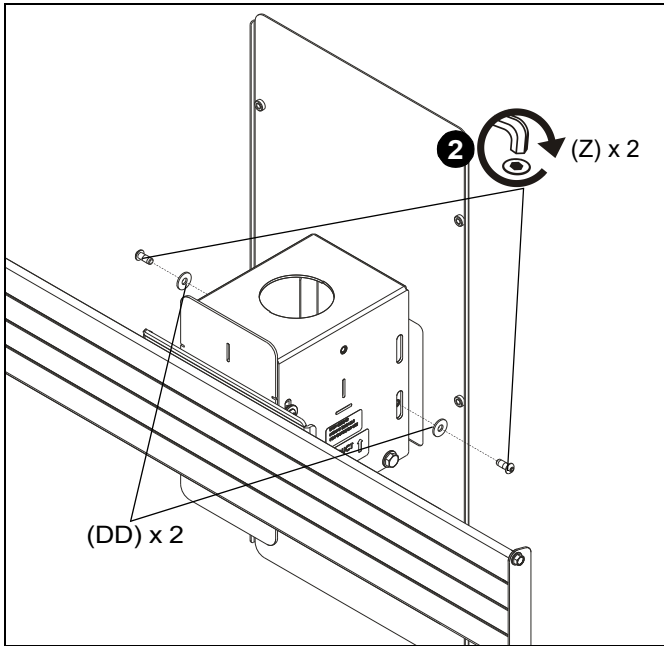

Figure 9
2. Use two 1/4-20 x 5/8" cap screws (Z) and two 1/4" washers (DD) to secure center wind shield (K) to sides of each mount assembly (H). (See Figure 9)